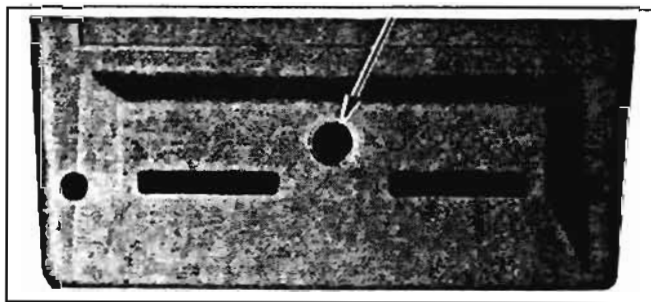

Figure 3-2. Battery Voltage Access Hole
- Insert the V - Ω test probe into the access hole as shown in Figure 3-2.